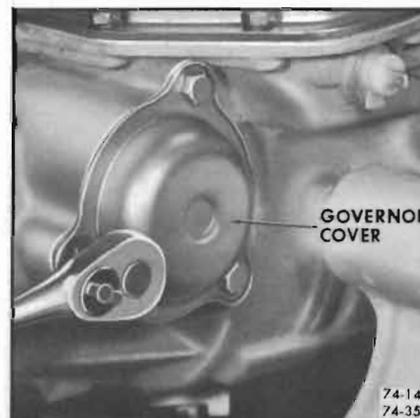

Figure 74-142
1. Remove three (3) attaching bolts retaining governor cover to case. Remove cover and gasket. See Figure 74-142.